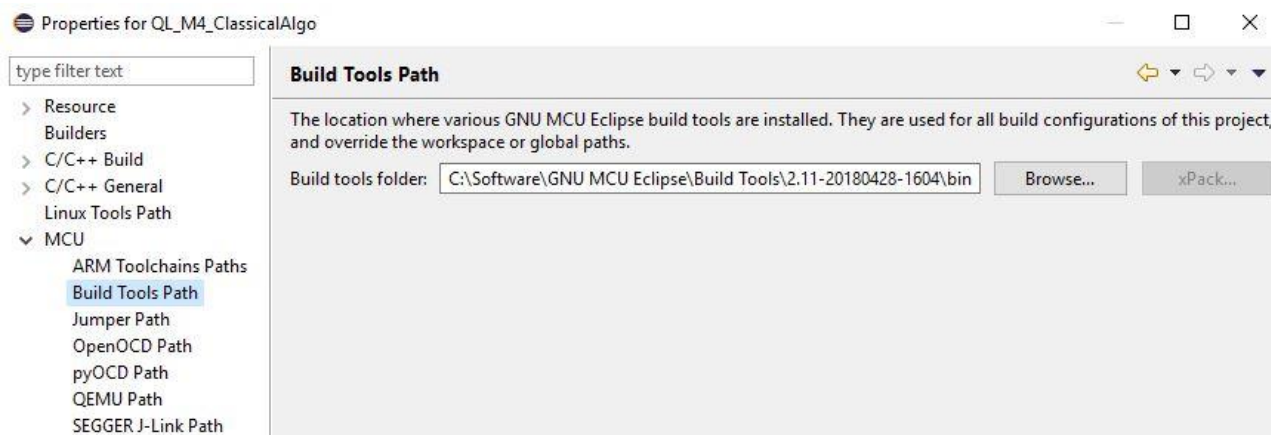

Figure 10 Build Tools Path
7. In the **Build Tools Path**, browse to the bin folder of the extracted GNU MCU Build tools (Figure 10) and Apply changes.